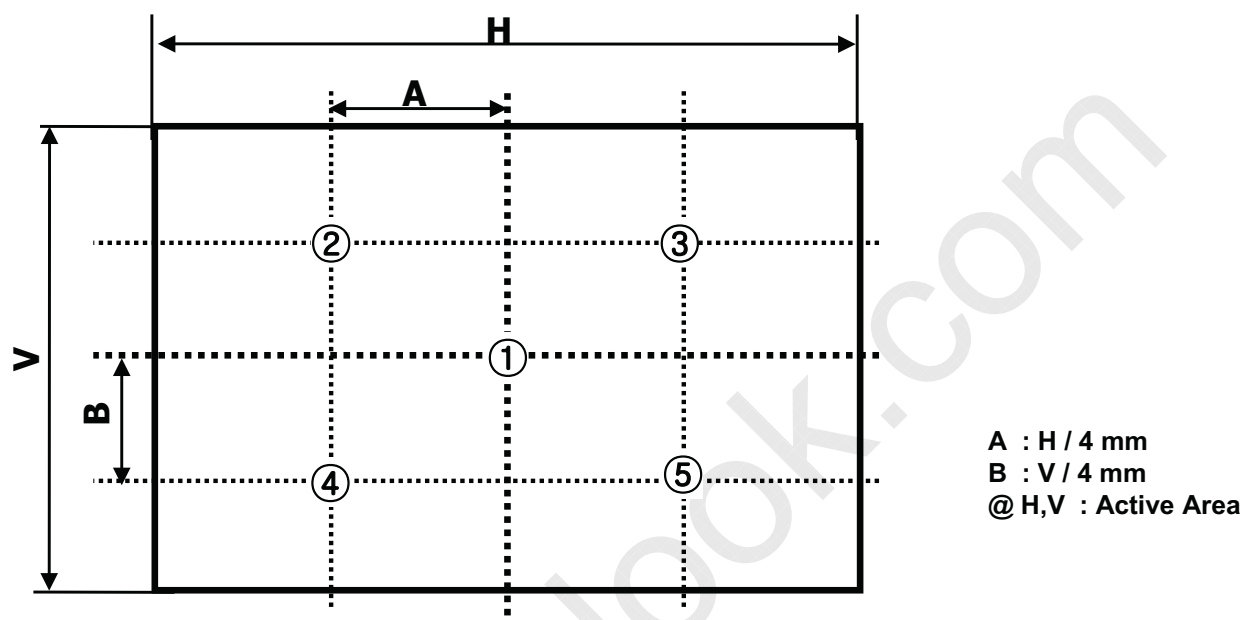

FIG. 2 5 Points for Luminance Measure
2. Surface luminance are determined after the unit has been 'ON' and 1 Hour after lighting the backlight in a dark environment at $25 \pm 2^\circ\text{C}$. Surface luminance is the luminance value at $n =$ the Position number(1, 2, 3, 4, 5) across the LCD surface 50cm from the surface with all pixels displaying white. For more information see the FIG. 2.
For more information, see the FIG. 2.